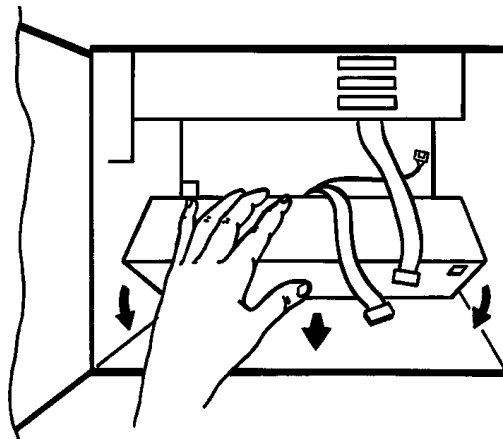
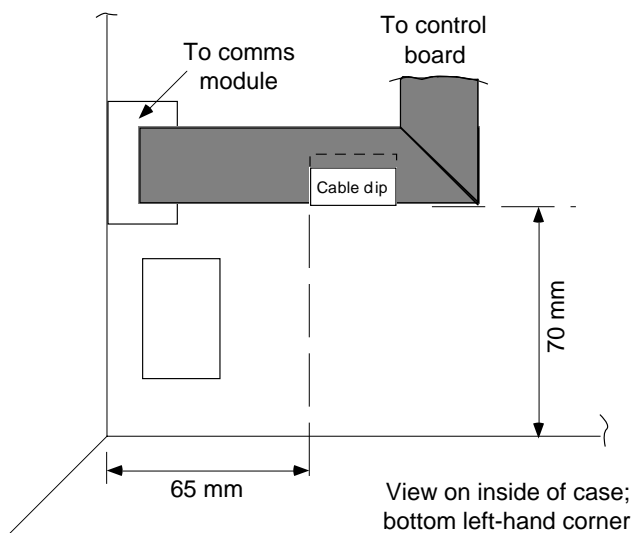

Figure 4.8.2d PSU removal
Figure 4.8.2e Cable clip location
4. Rotate and lift out the power supply as shown in figure 4.8.2d, carefully avoiding damage to the battery pack connector. Fit the plastic cable clip as shown in figure 4.8.2e.